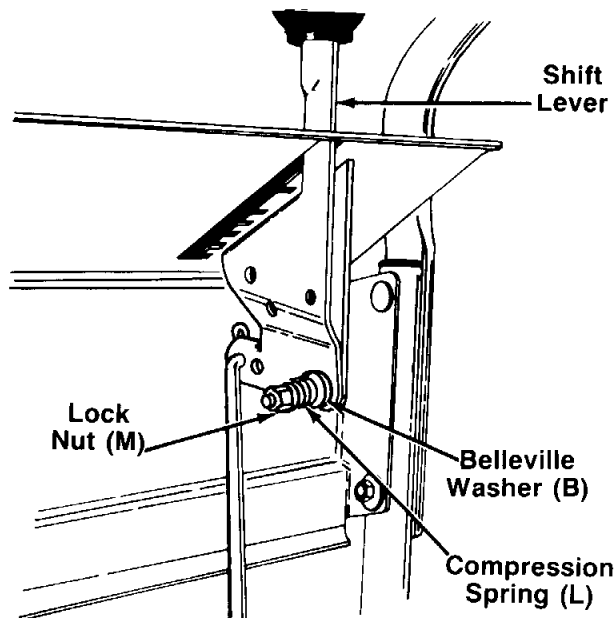

FIGURE 12.
17. Secure with belleville washer (B) (cupped side goes against shift lever), compression spring (L) and elastic lock nut (M). See figure 12. Tighten lock nut until compression spring returns the shift lever into detent slots on handle panel.